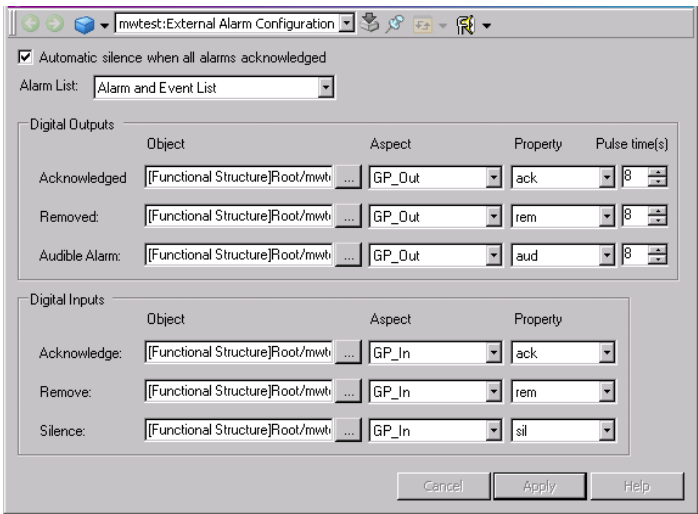

Figure 76. External Alarm Silence - Config View
**External Alarm Configuration View.** In the External Alarm Configuration View (refer to Figure 76) select the Alarm List and the filter criteria the external alarm
**External Alarm Silence View.** In the External Alarm Silence View (see Figure 76) a list with all the configured external alarms is shown. You have the possibility to silence all alarms that are active. Silence is possible for each individual external alarm or as a general silence for all displayed alarms.